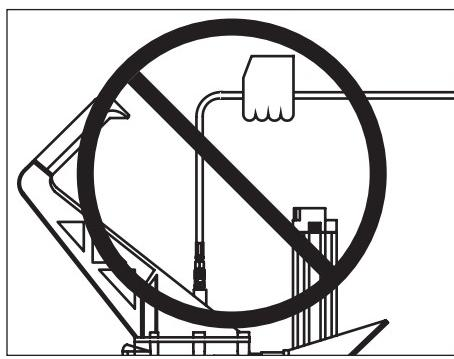

Figure 3 - Do not carry the nailer by the air hose
**WARNING** Never carry the nailer by the air hose or pull the hose to move the nailer or a compressor. Keep hoses away from heat, oil and sharp edges. Replace any hose that is damaged, weak or worn. Personal injury or tool damage could occur. See Figure 3.